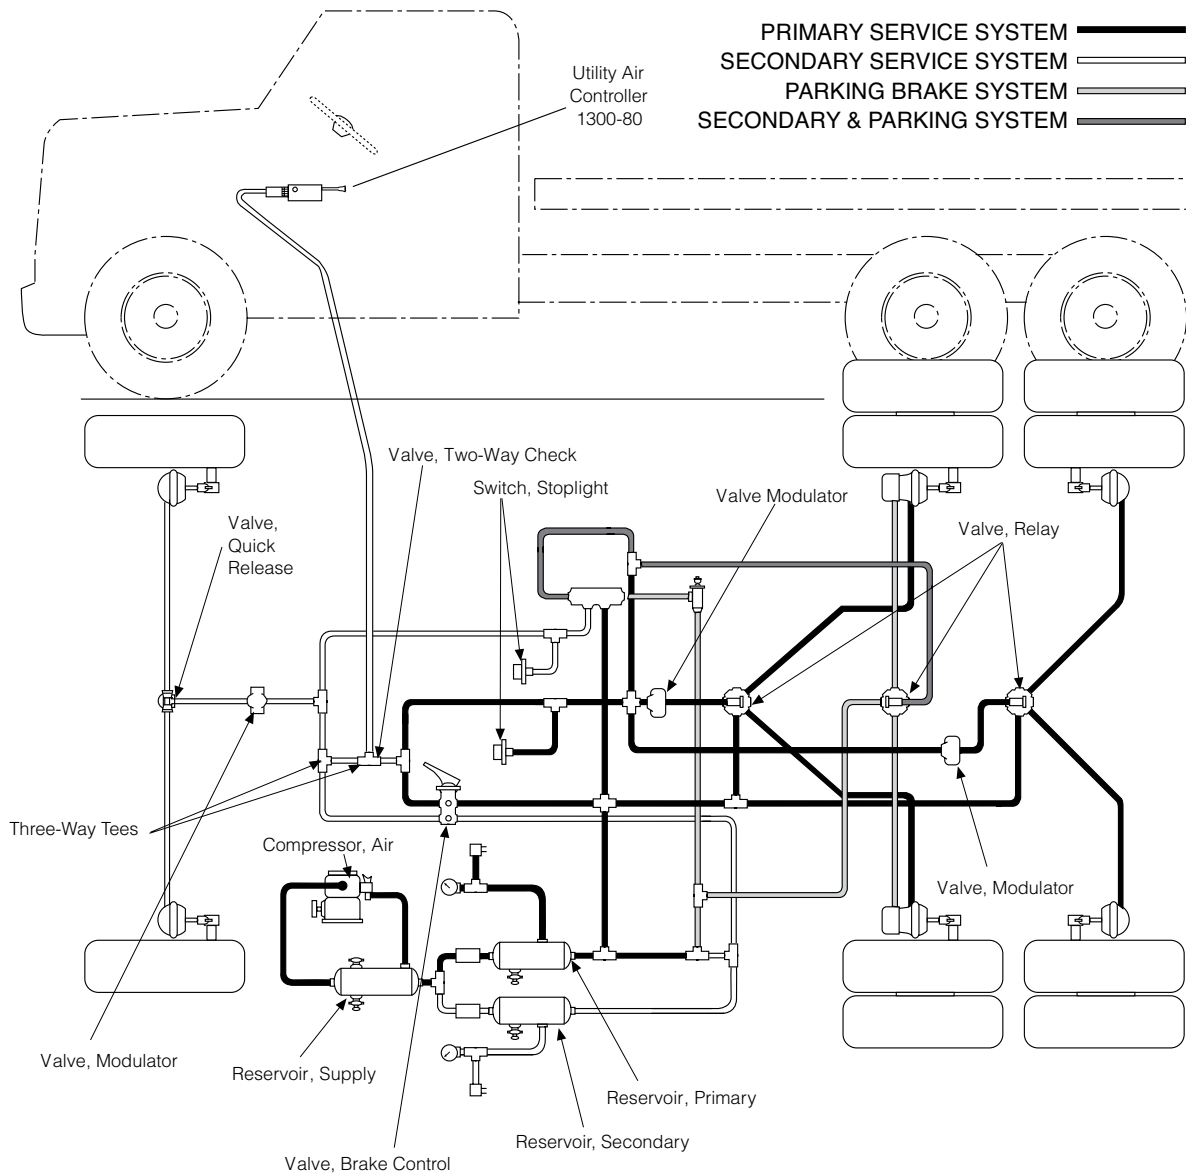

Figure 4
1. Refer to the schematic diagram in Figure 4.
4. After installing the 3-way tees in the primary and secondary control lines, connect the open (right angle) port of each tee to the inlet sides of the double check valve. (Refer to Figure 4). The double check valve serves two purposes: it provides a single connection between both brake lines and the air controller while keeping the primary and secondary brake systems isolated.